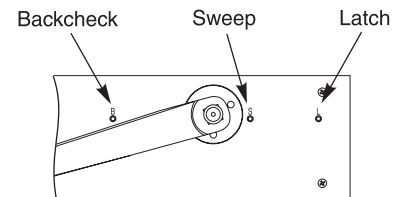

Figure 16
1. With provided 1/8" hex wrench, completely tighten latch and sweep valves by turning screws clockwise. This will allow for an easier closer-to-door connection. (Figure 16)